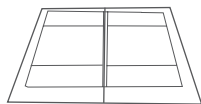

Figure 1A
- 1 Carefully place the base flat (Figure 1A) or in a side L position (Figure 1B). Two people are recommended for this step.